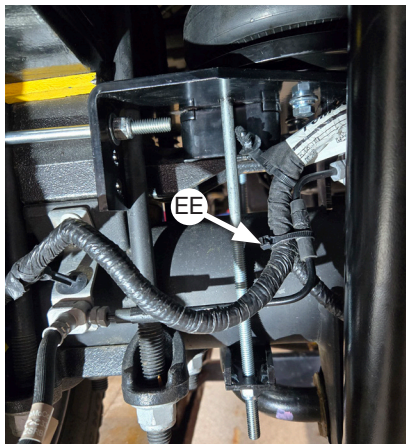

Fig. 39
12. Relocate the left ABS harness by securing the lower portion of the left ABS harness to the rubber brake line cover using zip tie (EE) (Fig. 39).